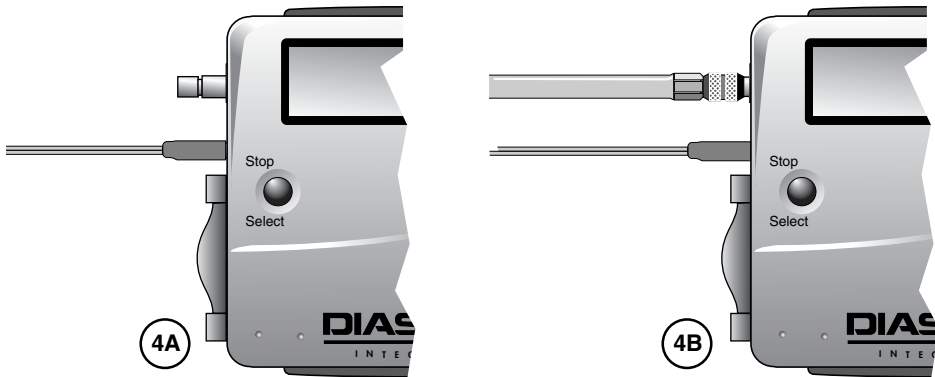

Fig 4 - Connecting the cuff to the Diasys
- Pass the tubing behind the patient’s neck and connect first the microphone, then the air tubing to the Diasys (Fig. 4), with the diasys already in its pouch.